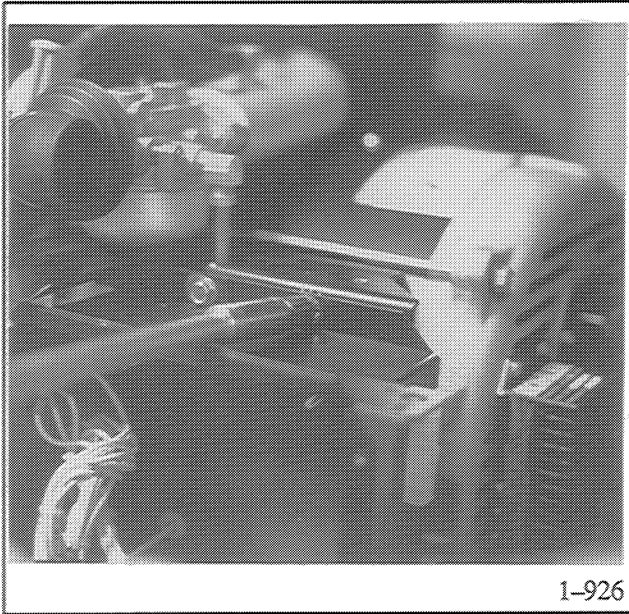

Figure 8-6. Removing Controller Box
7. Remove three screws (two are on top of the controller box, and one inside the controller box), using 3/8 in. socket wrench to remove controller box. See Figure 8-6.